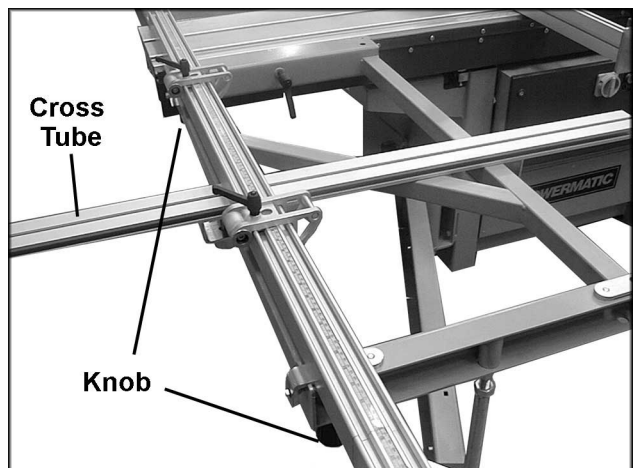

FIGURE 10
1. The crosscut table has four holes allowing the fence to be placed in two positions: at the left or right of the crosscut table. Fig. 10 shows the fence in the left set of holes.